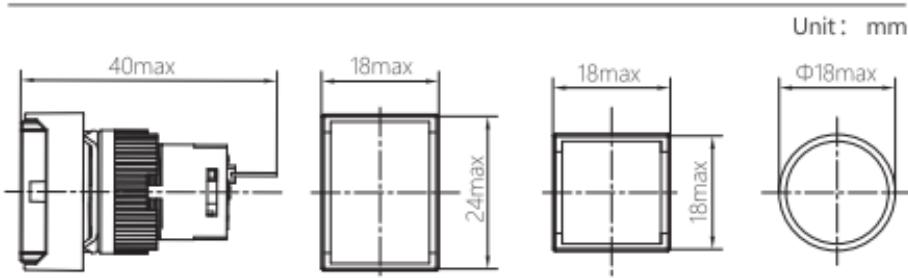

Figure 1 Overall dimensions of NP6-DS, D, BS, B, XD
1) The perforating diameter of the mounting hole for the button is  $\Phi 16$ , the minimum center to center distance of mounting holes should not be smaller than 25mm, see Figure 1 - Figure 4 for overall dimensions.